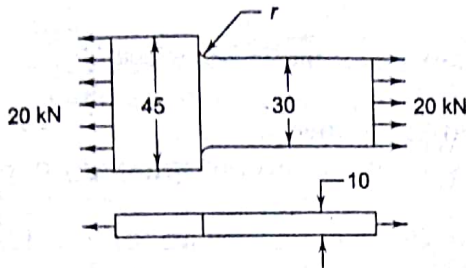

Fig. 5.61
- 5.4 **S** A plate, 10 mm thick, subjected to a tensile load of 20 kN is shown in Fig. 5.61. The plate is made of cast iron ($S_{ut} = 350 \text{ N/mm}^2$) and the factor of safety is 2.5. Determine the fillet radius.